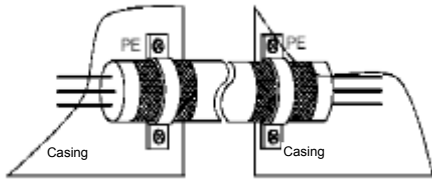
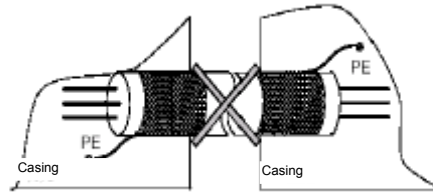

Figure A.4 Correct shield earthing method
Figure A.5 Incorrect shield earthing method
connected with metal casing with 360° through cable clips of two ends, as shown in Figure A.4. The shield earthing method as shown in Figure A.5 is incorrect.
(1) Apply cabinet installation. And the baseplate of inverter and exterior casing of input filter shall be fixed at the back plate of control cabinet to ensure strong electric contact with the back plate; the distance between the inverter and filter shall be as short as possible, and less than 15cm, which can ensure minimum high-frequency impedance of ground wire between the inverter and input filter and reduce the high-frequency noise.
(2) Install a wide earthing line at the entry of control cabinet (no more than 5cm from the exit), and all shield layers through the cabinet cable are fixed at this line via 360° ring joint to ensure sound electric contact.
(3) For motor cable, apply shield cable, or the one with spiral metal tape and wire mesh with double layers is better. Shield layer must be fixed at the back plate through 360° ring joint (as shown in Figure A.4) with a metal cable clip at the inverter side. There should be two fixing position: one as close as to the inverter, better less than 15cm; and the other at earthing line. When the shield layer passes through motor terminal box at the motor side, connect with motor metal casing through 360° ring joint; if it is difficult, twist the shield layers into braid type, and after rolling, connect the motor earthing terminal with the rolling width larger than 1/5 of braid length.